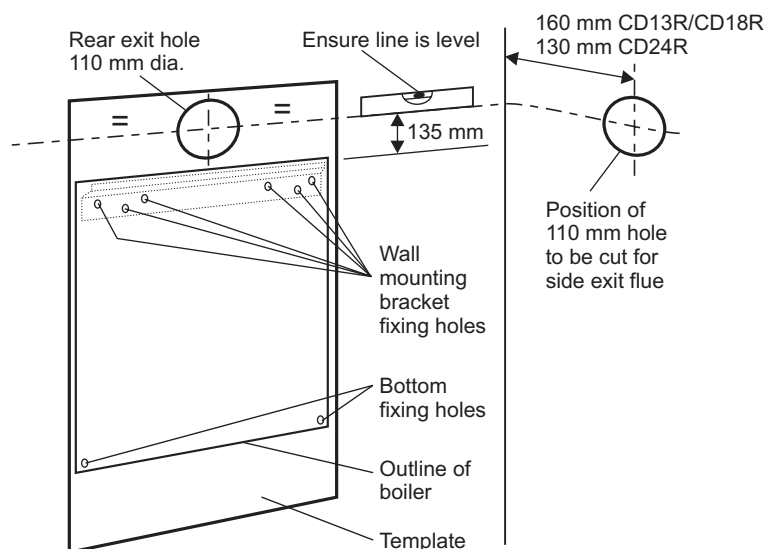

Fig. 11
4.3 PREPARE THE WALL - Figs. 11, 12
4.4 FIT THE BOILER - Refer to Fig. 11